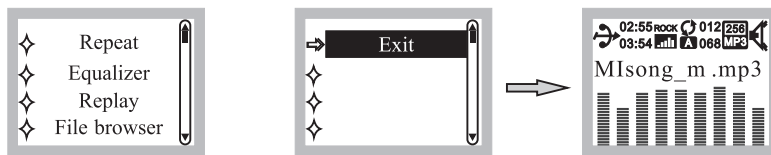

Fig. 14
- (J) Exit: In exit option, press Parameter knob to return to the playback mode, Fig. 14.